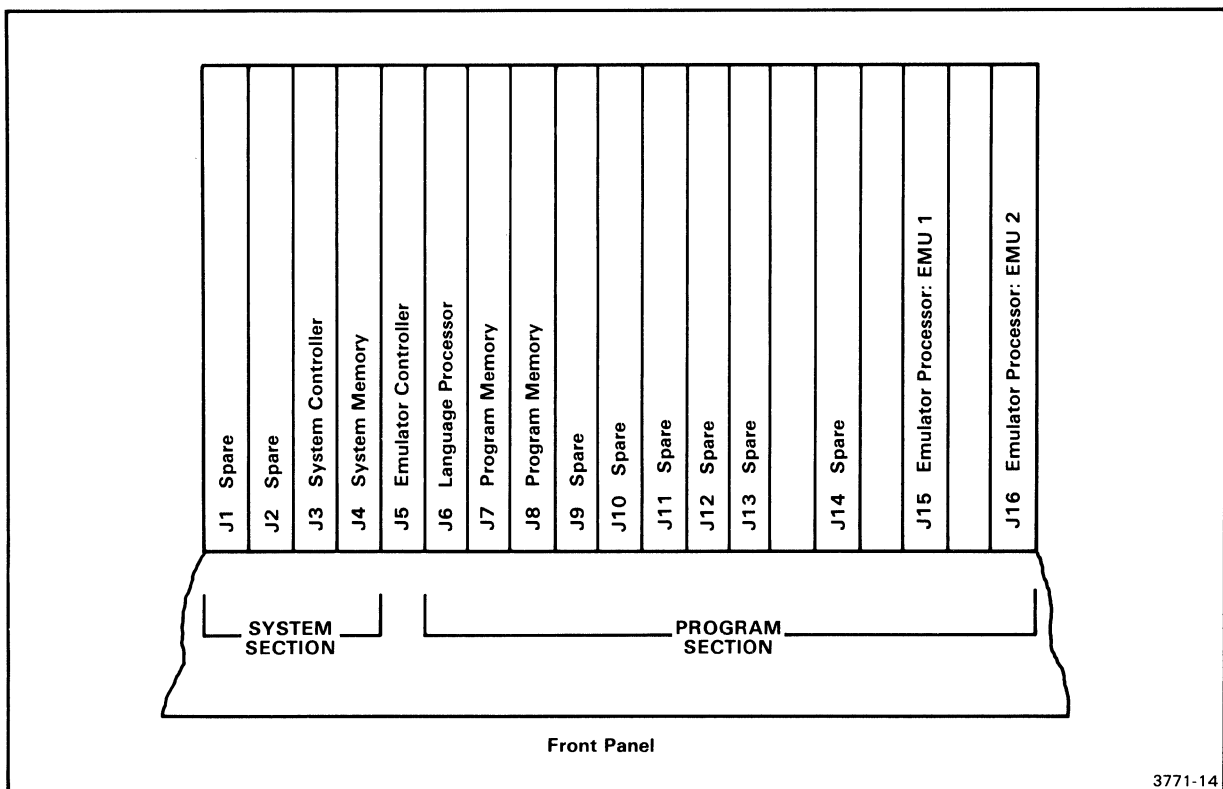

Fig. 9-4. Recommended module arrangement.
10. Guide EMU 1 and EMU 2 down the vertical channels to J15 and J16, respectively, on the Main Interconnect board (refer to Fig. 9-4).